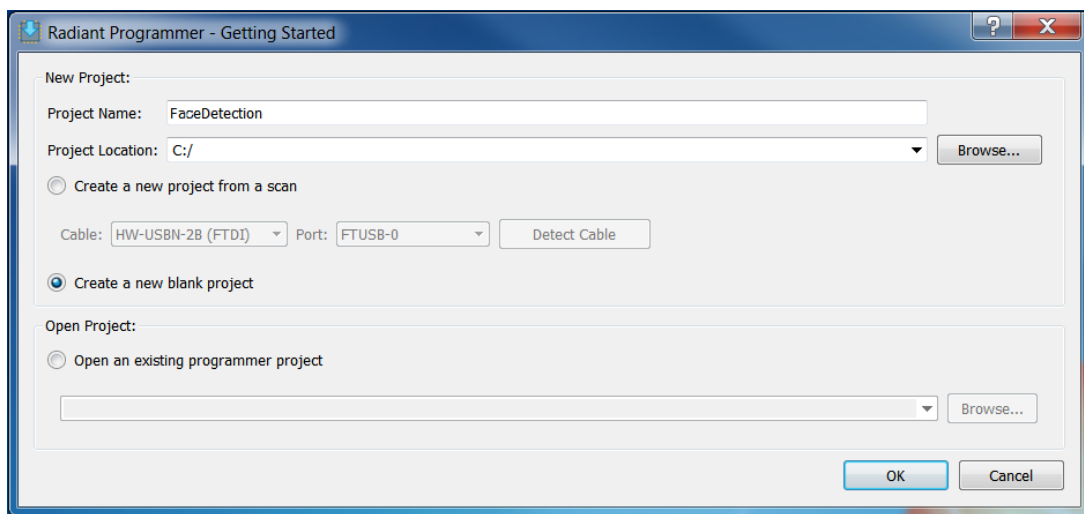

Figure 4.1. Create a New Blank Project
2. Start Radiant Programmer. In the Radiant Programmer Getting Started dialog box, select **Create a new blank project** as shown in Figure 4.1.